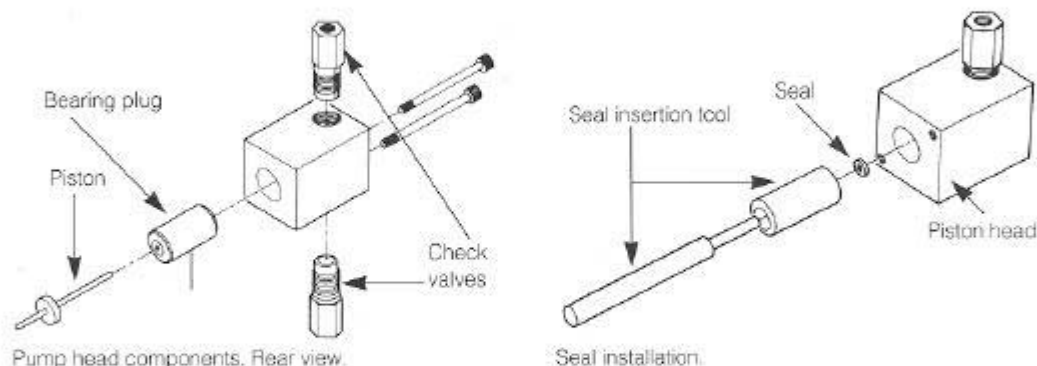

Fig. 11.3. Piston seal insertion.
7. Use the seal insertion tool (provided with the pump) to install the new seal as shown in Figure 11.3. One side of the seal has a spring visible. Make sure the spring faces the front (high pressure) side of the piston head. Be sure that the seal bottoms squarely into the seal cavity.